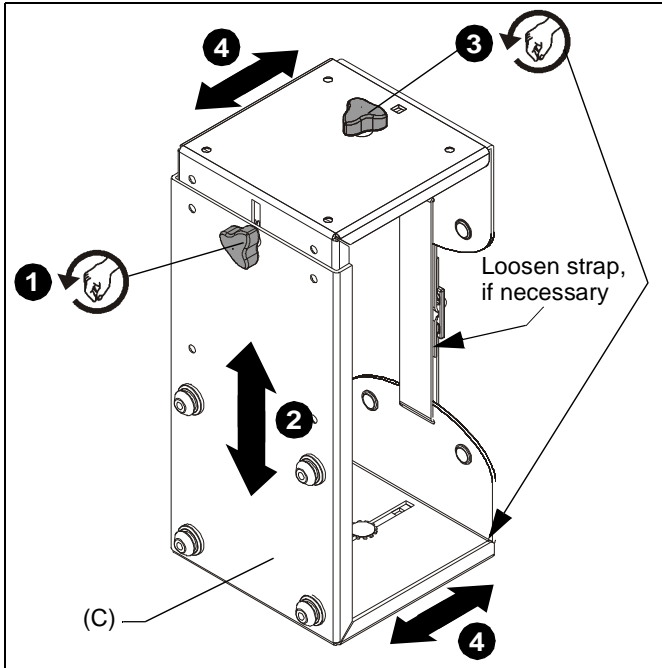

Figure 5
1. Loosen adjustment knob at the back of the CPU mount (C).
2. Adjust height of mount to a height greater than the height of the CPU to be installed. Loosen strap at the front of the CPU mount if necessary. (See Figure 5)
4. Slide flanges to allow insertion of the CPU. (See Figure 5)
NOTE: Top and bottom knobs may be removed and inserted into the front square holes to allow for large CPU installation. (See Figure 5)